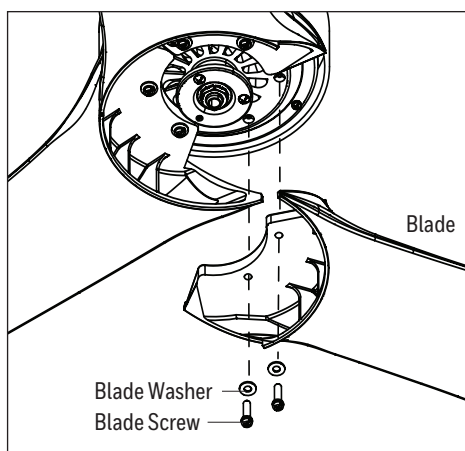

Figure 5.3
- Align the holes of one blade with two blade screw holes in underside of the motor assembly. Secure with the two blade screws and blade washers. Repeat this step for the remaining blades (Figure 5.3).